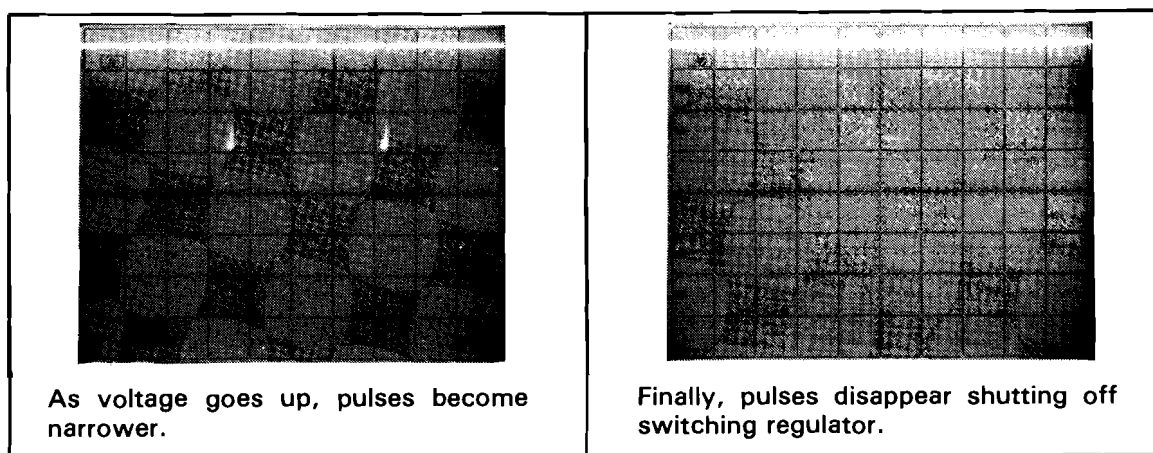

Figure 8-11-3. Voltage Effects On Control Pulses.
j. Increase the voltage on the external power supply until the PC board green LED indicator is on and the pulses on the oscilloscope display start to become narrower. This is the approximate output voltage of the supply under test. Further increase in voltage will cause the pulses to decrease in width, then disappear leaving a DC level (see Figure 8-11-3). If problems occur here, check the voltage sense amplifier. When finished with this portion of the check, disconnect the external power supply, but leave the oscilloscope connected for further checks.